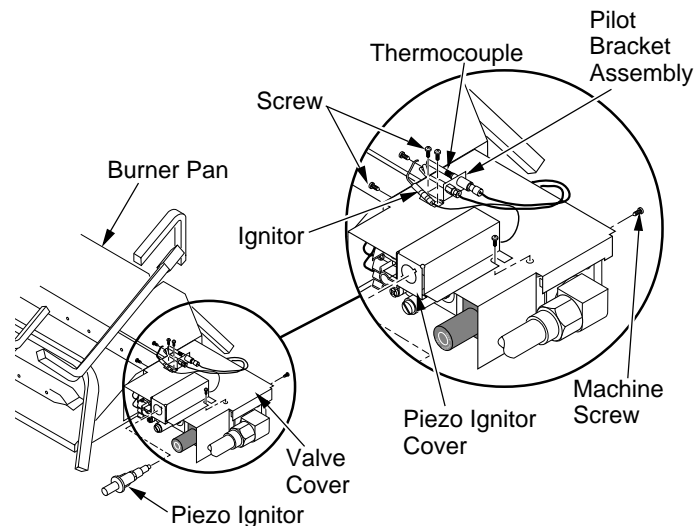
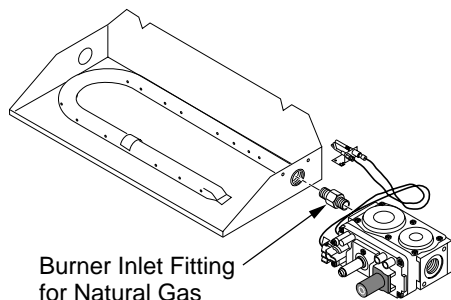
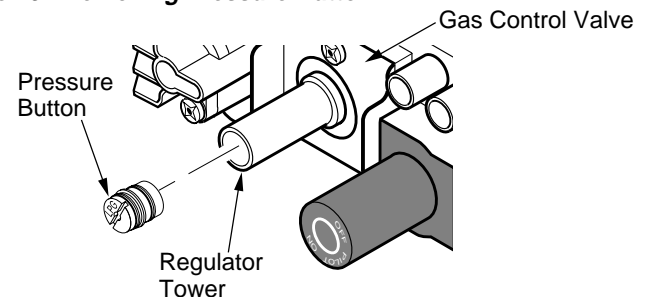

Figure 7 - Removing/Installing Thermocouple, Pilot, and Piezo Ignitor Cover
Figure 8 - Remove Burner Inlet Fitting
Figure 11 - Replacing the Pressure Button in the Propane/LP position
1. Remove the pilot assembly from the valve cover by removing the two screws on the bracket (see Figure 7).
3. Remove the two (2) screws on the burner pan and the remaining screw on the rear of the control valve to remove valve cover.
4. Unthread control valve and burner inlet fitting from burner tube by turning valve counter-clockwise (see Figure 8) .
5. Remove natural gas inlet fitting from the control valve and discard (see Figure 8). DO NOT remove the orifice from this fitting. The propane/LP burner inlet fitting is included in the hardware kit (see Figure 11, page 8).
3. Reverse the pressure button and replace into regulator tower (see Figure 11).
4. Reattach the pilot and piezo ignitor assembly to the valve cover with the screws previously removed (see Figure 7, page 7).